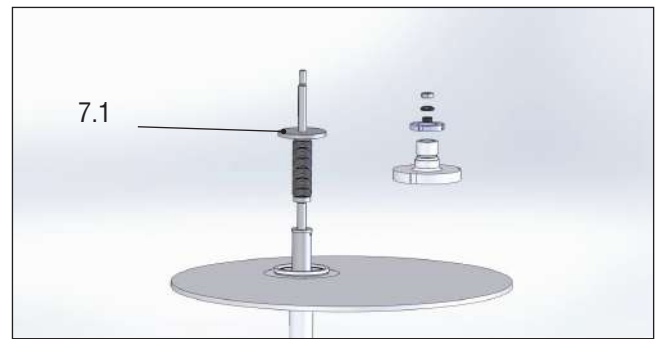

Figure 7: Trim Assembly
- 3.1.4 Carefully remove the trim assembly (7.1) - consisting of bellows seal, extension and plug - from the valve housing (Figure 7)